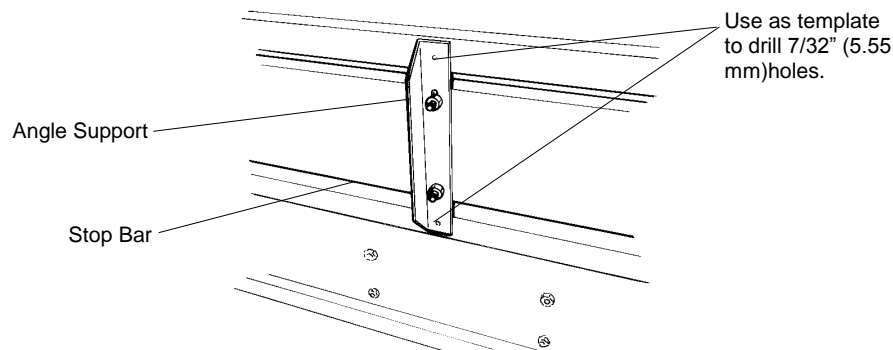

Figure 41: Installing the Stop Bar
2. Working from the front of the tool, attach the three angle supports (Figure 41) to the back of the Stop Bar, using six 5/16 x 3/4" (7.9mm x 19.05mm) hex-head cap screws and nuts. Tighten the nuts securely.